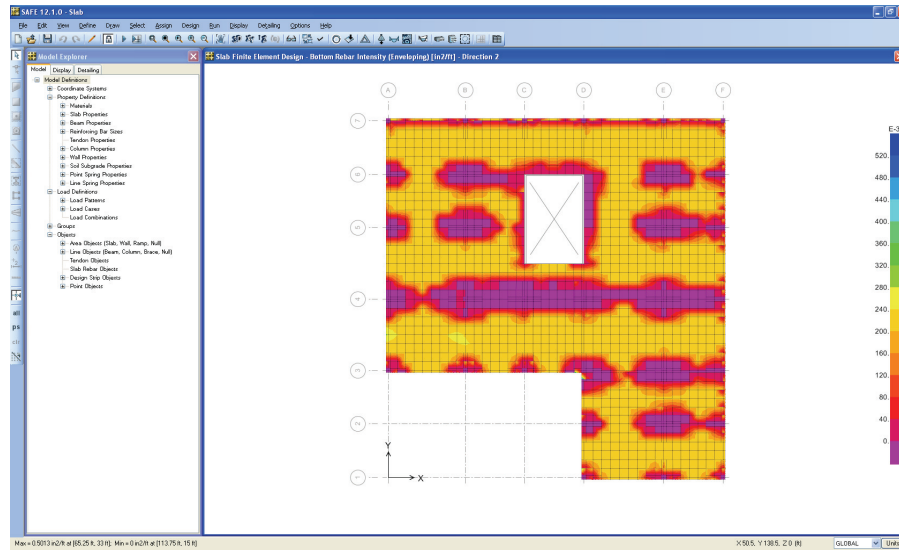

Figure 41 Direction 2 reinforcing
- K. Click the **OK** button to leave the Slab Design form and display the slab design results for the local axis 2 direction. The view will be updated to that shown in Figure 41. Again, positioning the cursor anywhere on the slab will result in the display of the reinforcing values at the cursor and in the lower left-hand corner of the SAFE window.